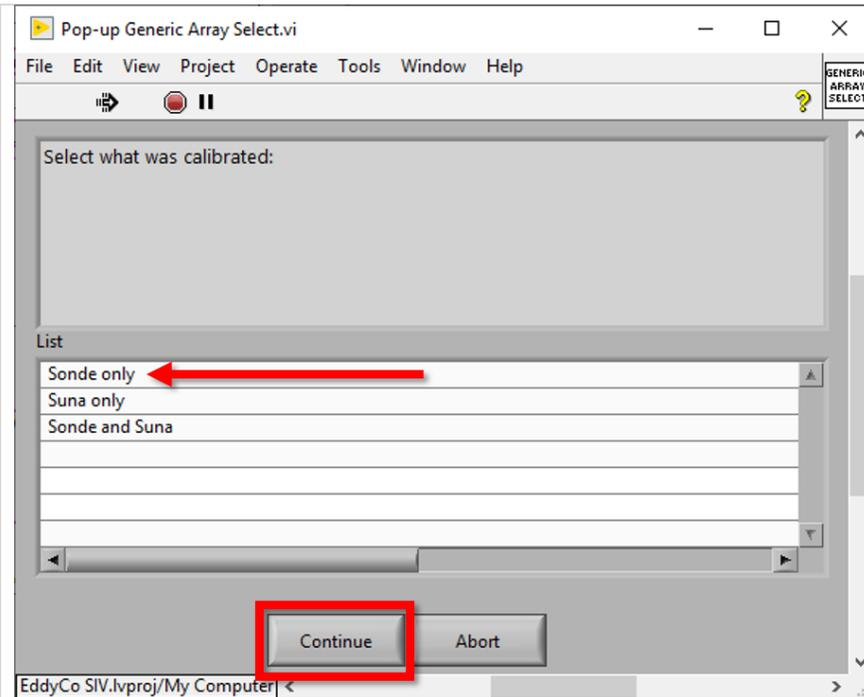

Figure 142. Select Multisonde only to upload Multisonde calibration data pop-up window
**STEP 3** | Select the **Multisonde only** to upload the calibration data for the Multisonde (Figure 142). Click “Continue” to move to the next step.